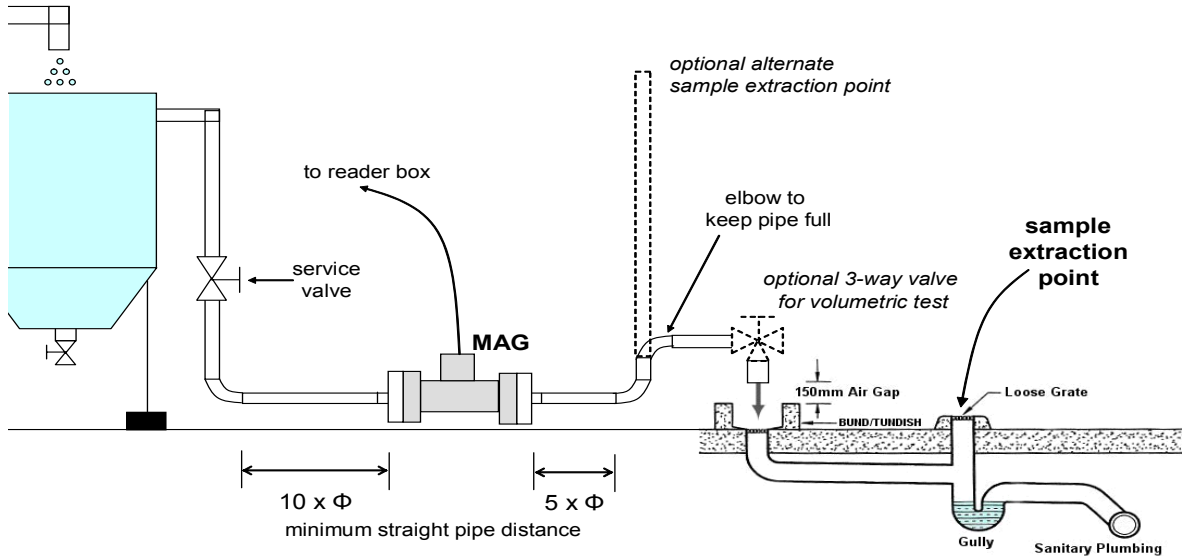

Fig 4. Typical Tradewaste Separator Discharge Installation
- provide an extraction point so that samples of the discharge liquid can be extracted (Fig 4).
- to avoid syphoning occurring, do not seal the pipe to the sewer (Fig 4).